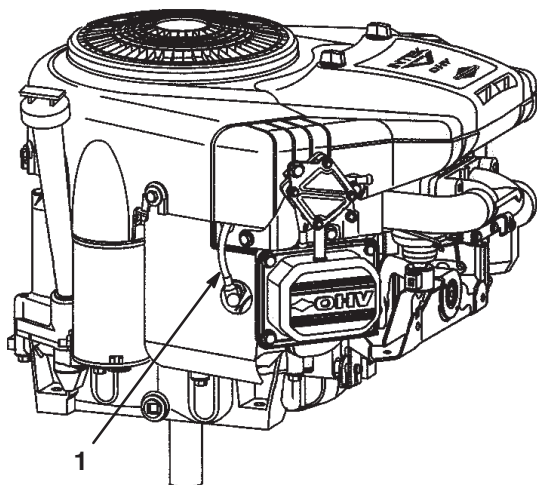

Figure 29
6. Disconnect the wire from the spark plug (Fig. 29).
3. Connect the wire to the spark plug (Fig. 29).